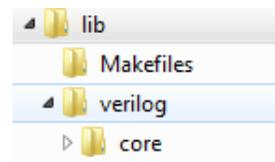
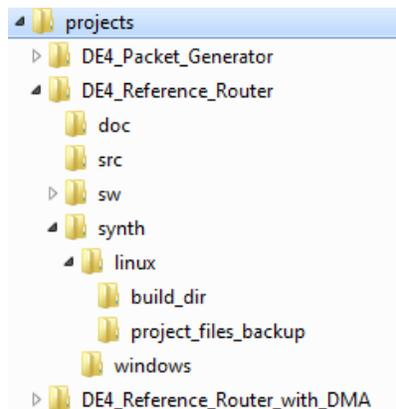

Figure 8: lib directory structure
Figure 9: Reference Router directory structure
- Unzipping **DE4_Reference_Router_v2.0.zip** will merge reference router source files with the “lib” and “project” directories in the base package. These directories are shown in Figure 8 and Figure 9.